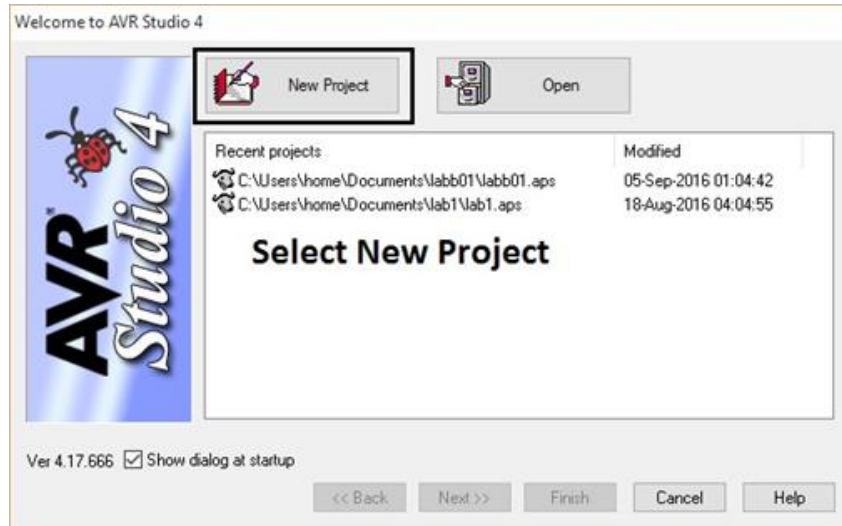

Figure 1.6 – How to create new project using AVR Studio installed in Lab
- Launch AVR Studio either by start menu or by selecting desktop icon. Then select Project Wizard from menu bar and select New Project as shown in figure 1.6.